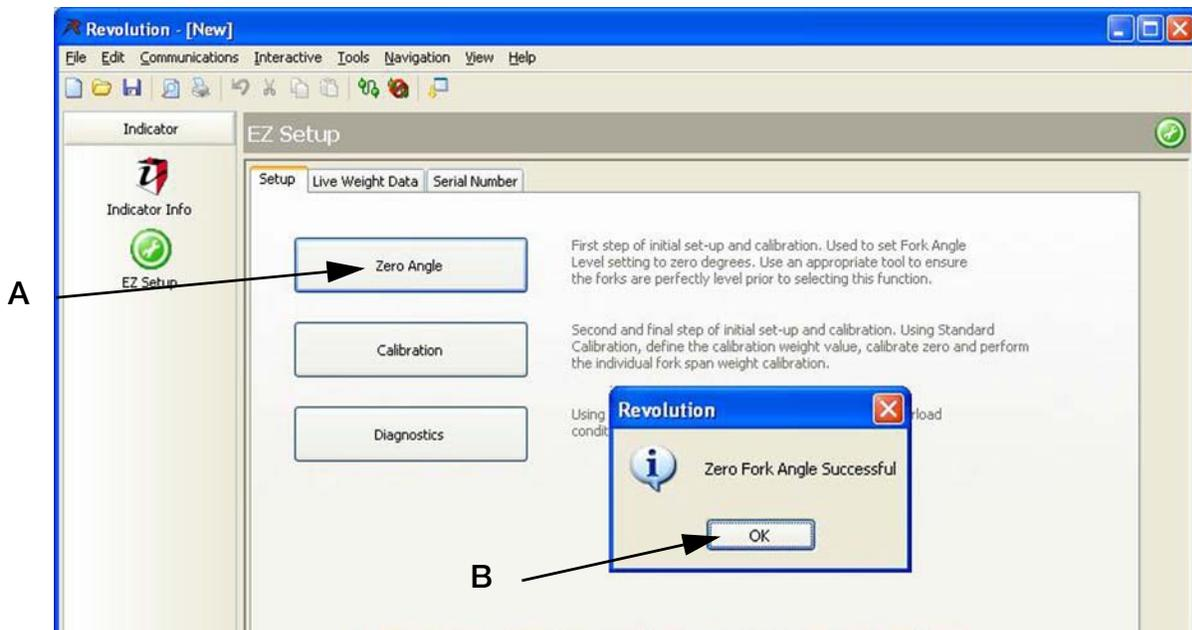

Figure 4-20. Zero Forks
2. In the setup screen, press Zero Angle (Figure 4-20 A).
3. A pop-up appears as shown in Figure 4-20 B, press OK to close the pop-up box.